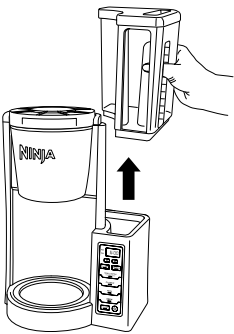
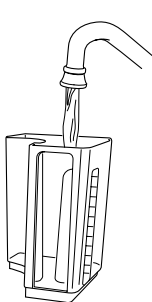

Fig. 1
Fig. 2
- 2 Remove the water reservoir from the unit by lifting it straight up (Fig. 1). Remove the lid entirely and fill the water reservoir to the desired level (Fig. 2).